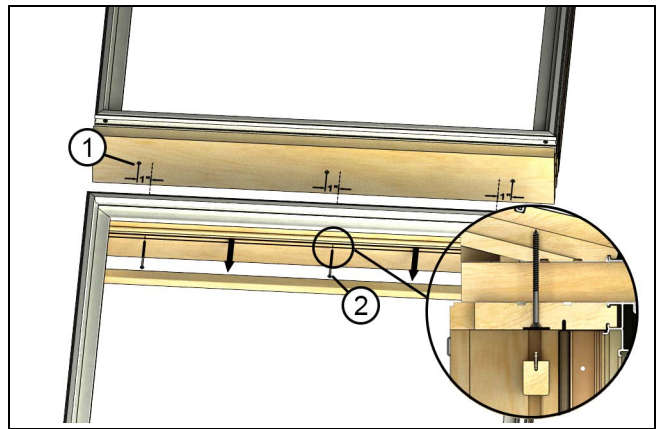

Figure 31 Remove parting stop on double hungs
6. On double hung units, remove the head jamb parting stop (on double hung operator units) from the bottom unit or stops from other. Then drive #8 2/3 thread screws through the head jamb and into the space mull block. See Figure 31. (See fastener table above for proper length).